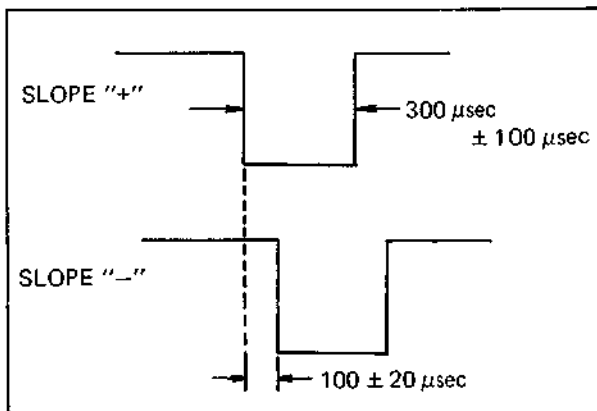

Fig. 5-18 V. Pulse Adjustment
3. Connect the oscilloscope to TP-18 (V. PULSE OUT) of the SERVO board. Alternate the oscilloscope slope between "+" and "-" and adjust R103 (CH-1 V. PULSE) of the SERVO board so that the difference in the pulse falling position becomes $100 \pm 20 \mu\text{sec}$. See Fig. 5-18.